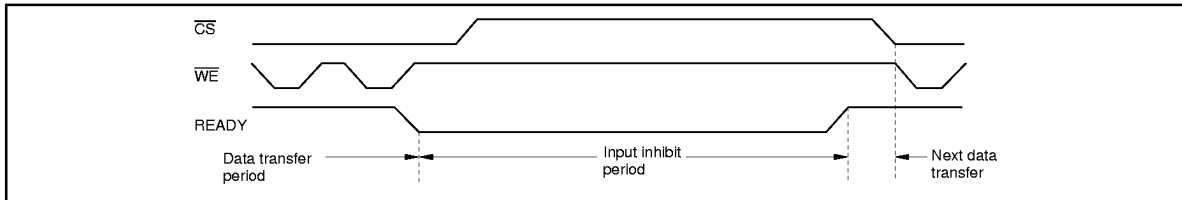

Figure 12 **READY** Output Timing (When It Is Always Available)
- a. READY is mode always available (Figure 12).